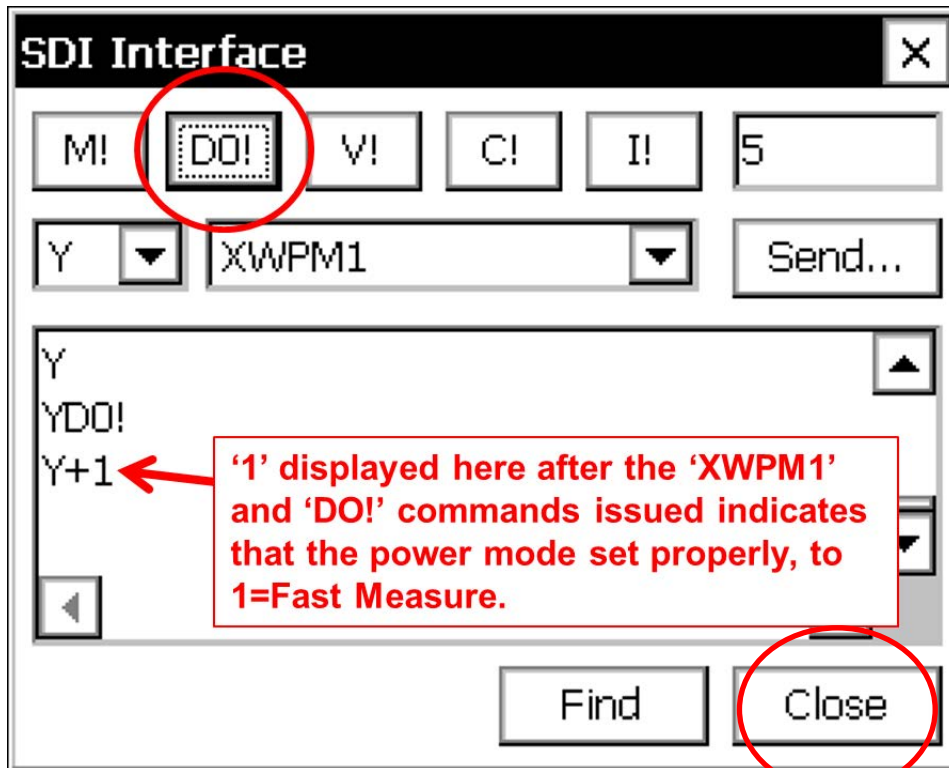

Figure 3-27. Click DO! and then click Close.
(fig. 3-27). Once the proper power mode setting is confirmed, click the **Close** button in the lower right corner of the **SDI Interface** window.
2. Enter the appropriate group login and password when prompted; the page shown in fig. 3-27 will appear.
3. Enter the station number as shown in fig. 3-27.